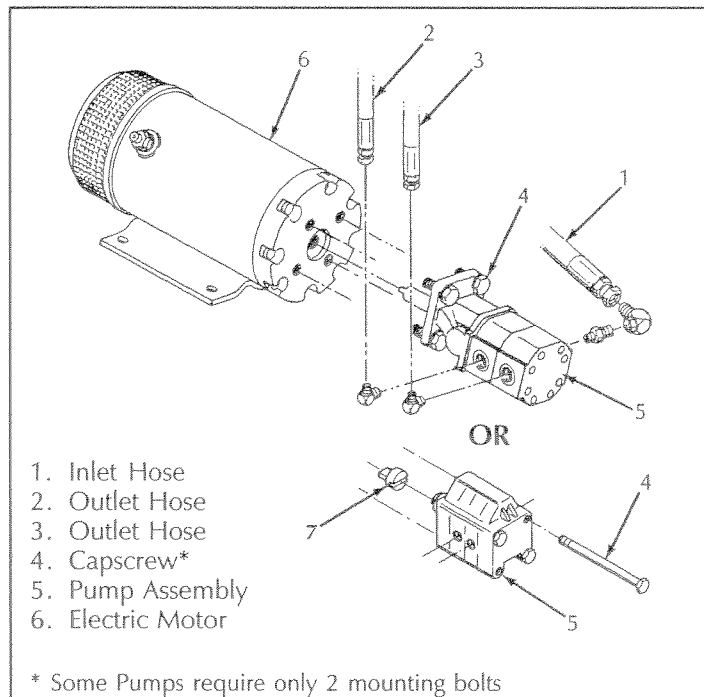

Figure 3-12: Hydraulic Pump
3.8 Hydraulic Pump (Figure 3-12)